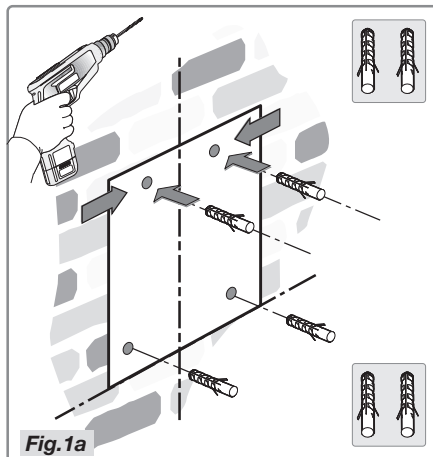

Fig. 1a
- Place the template on the wall and ensure that the line corresponds to the line previously drawn on the wall. Mark the position of the holes and drill these (Fig. 1a).